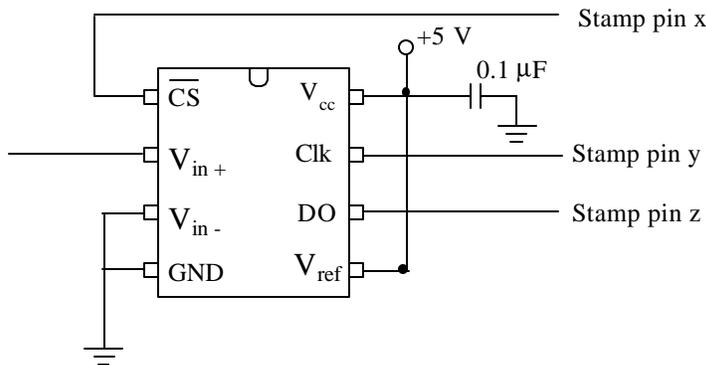

Figure 7 The ADC0831 Analog to Digital Converter.
9. Once you are satisfied with the amplified bridge voltage from Step 8, build the A/D converter circuit shown in Figure 7. An A/D converter is a device that converts an analog voltage into a digital number. The ADC0831 is an 8-bit A/D, which means that it will convert the differential voltage, ($V_{in+} - V_{in-}$), into an 8-bit binary number. The converted voltage will thus be a binary number between 0 and 255 (i.e., 2^0 and 2^8 , or 00000000 and 11111111). So what voltage corresponds to which binary number? This correspondence depends on what V_{ref} is. When the differential voltage is equal to V_{ref} , the converted value will be 255. For example, suppose $V_{ref} = 5$ V, and the A/D is configured as in Figure 7. If $V_{in+} = 2.51$ V, then the digital result will be 128. V_{ref} should be between about 1 V and 5 V.